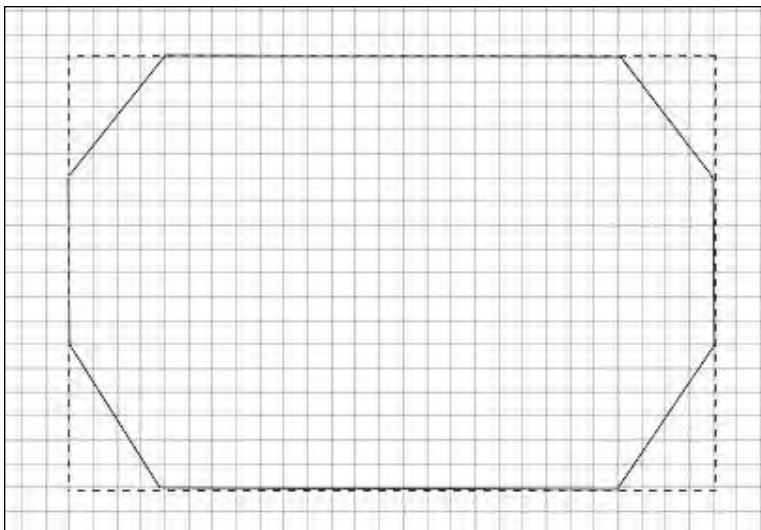

Figure 14-4:
- 4. Select the Draw Bezier Curves and Straight Lines tool (refer to the upper right corner of Figure 14-4) and draw the basic outline of your shape.**